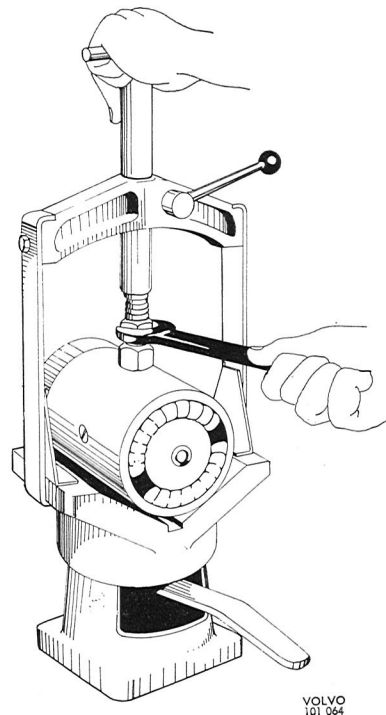

Fig. 3-90. Rotating clamping block for removal and installation of field coils
3. Then place the stator in the rotating clamping block (Bosch EF AW 9 or similar) and remove the pole screws as shown in Fig. 3-90.